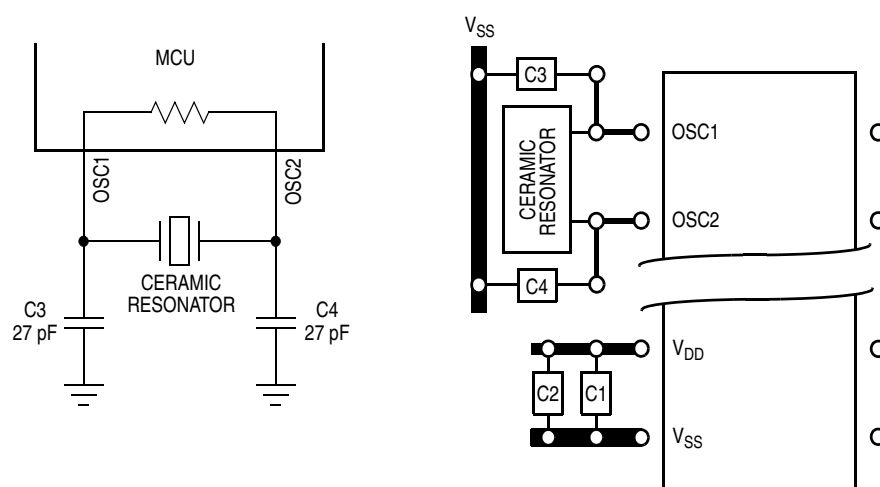
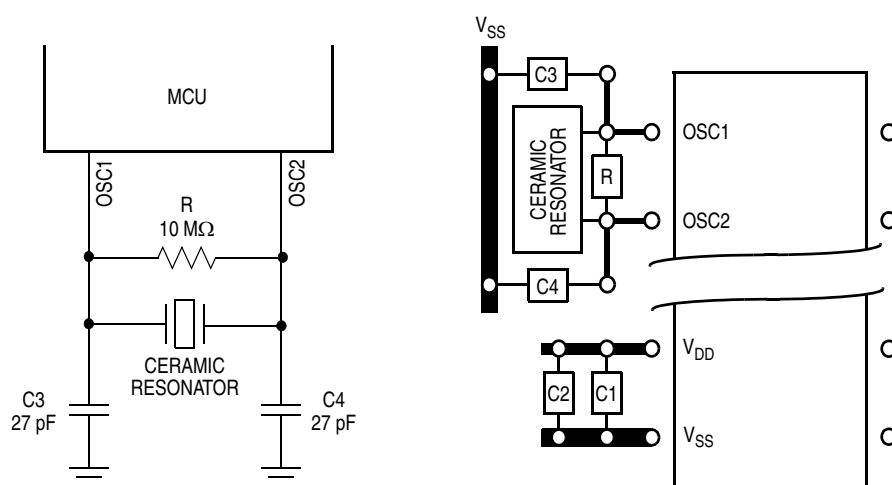
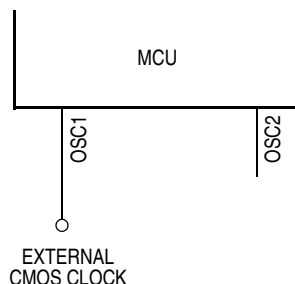

Figure 1-6. Ceramic Resonator Connections with Oscillator Internal Resistor Mask Option
Figure 1-7. Ceramic Resonator Connections without Oscillator Internal Resistor Mask Option
Figure 1-8. External Clock Connections
2. Ceramic resonator (See **Figure 1-6** and **Figure 1-7**.)
3. Resistor/capacitor (RC) oscillator (Refer to **Appendix A. MC68HRC705KJ1**.)
4. External clock signal as shown in (See **Figure 1-8**.)
To reduce cost, use a ceramic resonator instead of the crystal. The circuits shown in **Figure 1-6** and **Figure 1-7** show ceramic resonator circuits. Follow the resonator manufacturer's recommendations, as the resonator parameters determine the external component values required for maximum stability and reliable starting. The load capacitance values used in the oscillator circuit design should include all stray capacitances.
An external clock from another CMOS-compatible device can be connected to the OSC1 input, with the OSC2 input not connected, as shown in Figure 1-8. This configuration is possible regardless of whether the crystal/ceramic resonator or the RC oscillator is enabled.